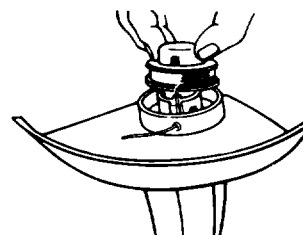

Figure 17
- D. The spool and the core are keyed. Be sure they are properly aligned with eyelet when putting spool back on. Thread end of line through eyelet, place spool on keyed core, and push in place until you hear it click. Pull line free from groove in spool. Unwind no more than 3 inches from spool (Fig. 17).